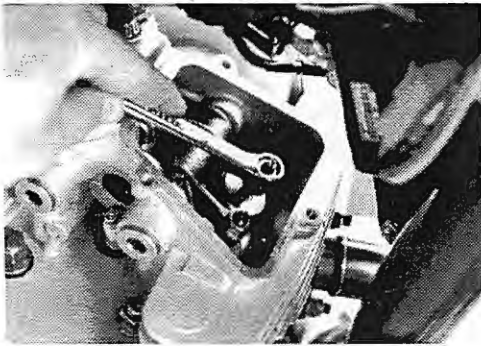

Figure 4.10
6. Adjusting one valve at a time, loosen the 11 mm hex head lock nut with a box end wrench at the top of each valve adjuster. (Figure 4.10)